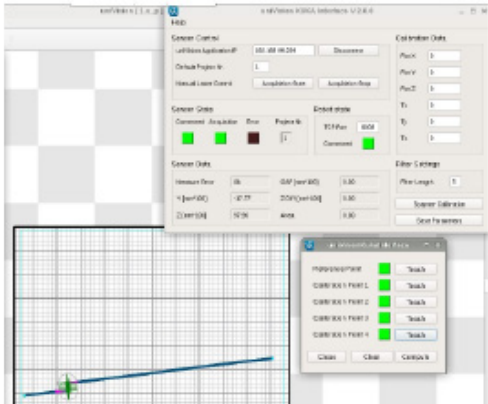

Fig. 26: Teaching calibration points Pref...P4
You start using the robot interface at 9. and after having taught all calibration points the displays of Pref, P1, P2, P3 and P4 turn green (see Fig. 26).
9. Run the calibration program from the robot controller. The robot at first will build a connection to the uniVisionKukaInterface and switch on the laser in the 2D/3D Profile Sensor. Then the robot will travel to the positions Pref, P1, P2, P3 and P4. Each time the robot reaches a saved point, click on teach button related to each point in the calibration window in uniVisionKukaInterface (see Fig. 26).